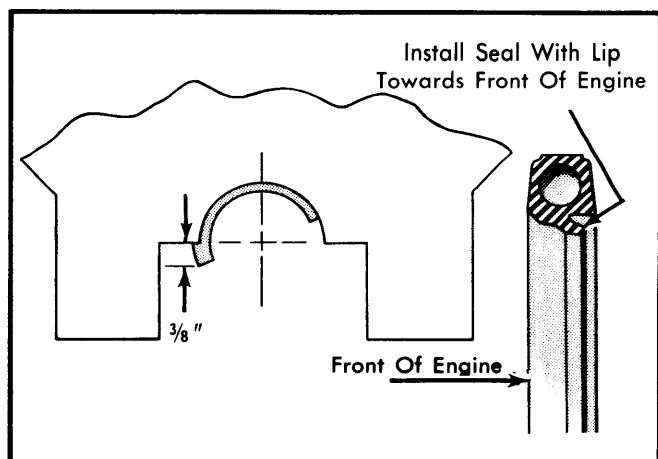

Fig. 11 Split Lip Type Rear Main Bearing Oil Seal
2) Remove oil seal retaining pin from bearing cap (if equipped). Discard pin. Dip seal halves in engine oil. Install upper seal in groove with undercut side of seal toward front of engine by rotating it on seal journal until $\frac{3}{8}$ " protrudes below parting surface. See Fig. 11. Tighten main bearing cap bolts.